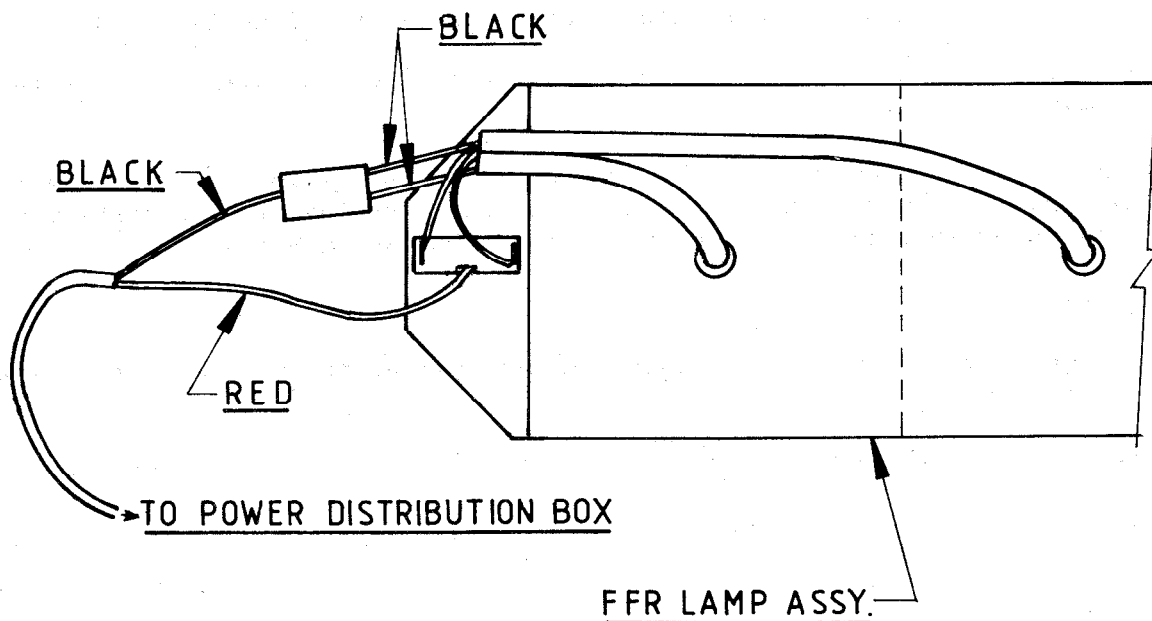

FIG 3 - FFR LAMP
- (1) Disconnect the radio batteries.
- (2) Identify the red wire, as shown in Fig 3, cut it near the FFR lamp and fit the fuse holder and crimp terminals (item 6 from Table 1) to the wire.